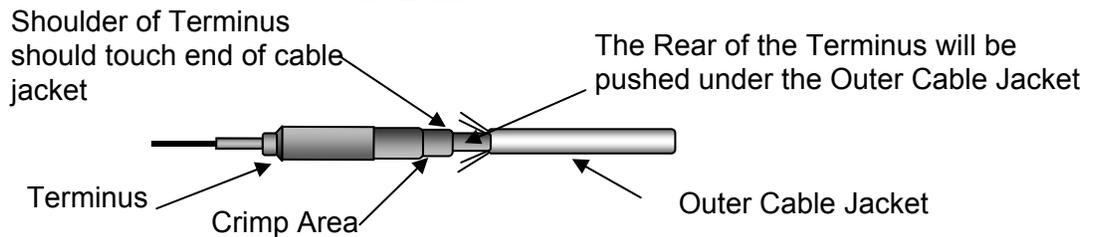

Figure 7-33 – Installing the Terminus onto the Fiber
Step 16 - Install the terminus onto the fiber by gently working the fiber trough the terminus until the buffer seats against the rear of the terminus. See Figure 7-33.